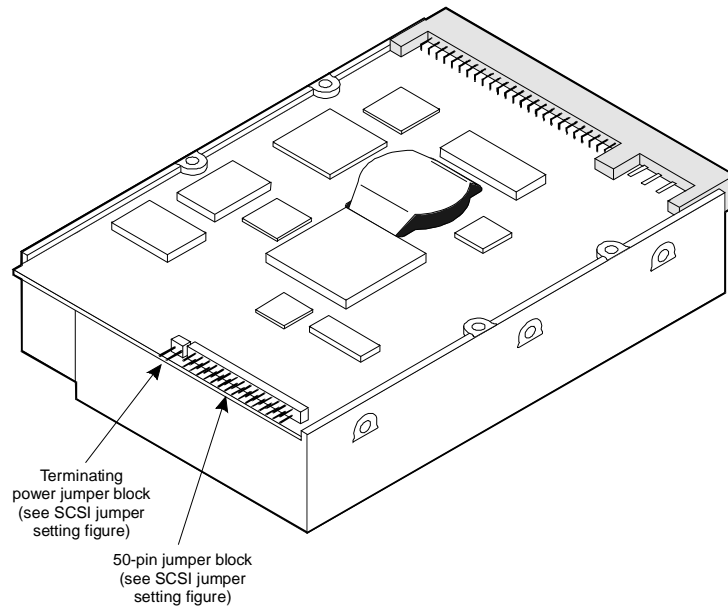
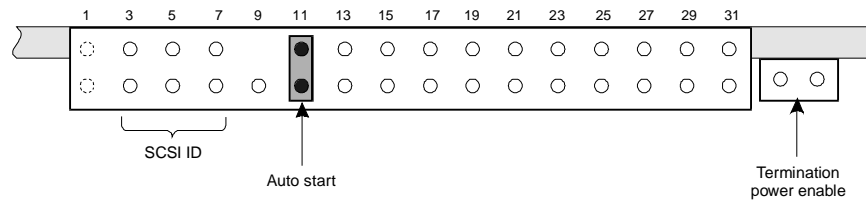

Figure B-18. Jumper Locations on the 2-Gbyte SCSI Hard Disk Drive (Comcode 407340942)
Figure B-19. Jumper Settings for the First 2-Gbyte Disk Installed; Bay 1, SCSI ID = 0
- n Figure B-18 shows the location of the jumpers on the Type A 2 Gbyte SCSI hard disk drive (Comcode 407340942). Figure B-19 and Figure B-20 show the jumper settings.